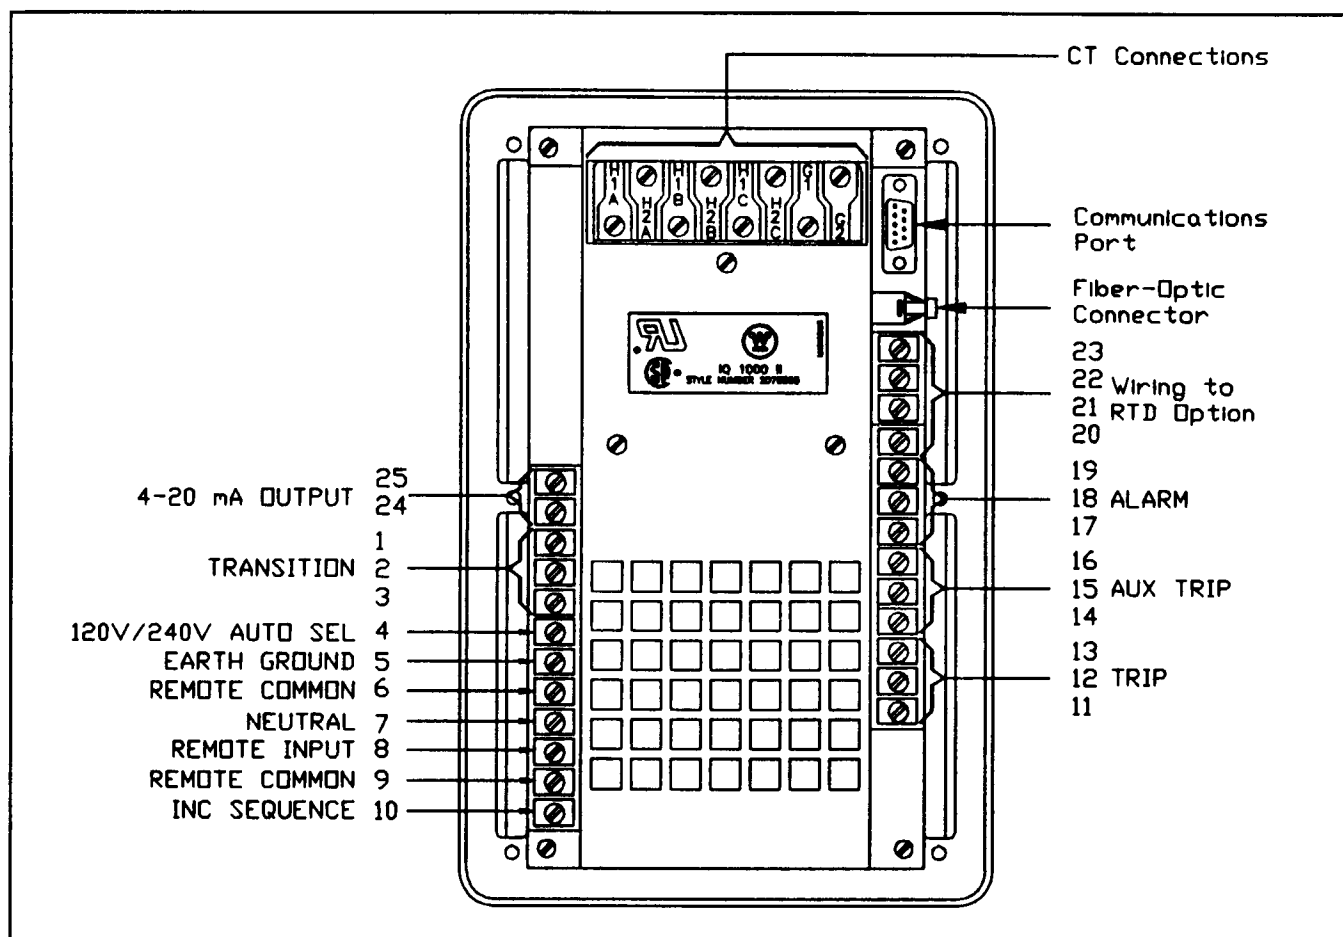

Figure 9.1 — IQ-1000 II Rear Terminals
- The form C relay contacts (terminals 11, 12, and 13) are brought out from the Trip relay. (Auxiliary Trip relay contacts are terminals 14, 15 and 16; see Figure 9.1).